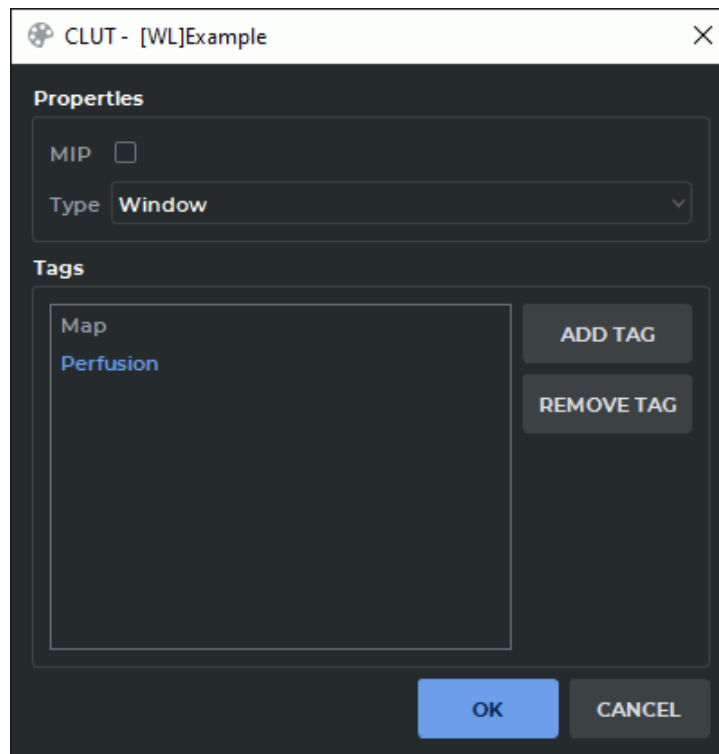

Figure 2.72: CLUT dialog box
8. To assign a group type to the CLUT, click the **Edit CLUT/group**  button at the top of the CLUTs settings panel. In the **CLUT** dialog box (Fig. 2.72), select the group type to which the table belongs from the drop-down list:
9. To add the tags that the CLUT should contain, click the **Edit CLUT/group**  button at the top of the CLUTs panel. In the **CLUT** dialog box (Fig. 2.72), click the **ADD TAG** button and enter the tag name in the input area. To rename a tag, double-click on the tag name, enter the new name and press the **Enter** key on your keyboard. To remove a tag, select it and click the **REMOVE TAG** button.